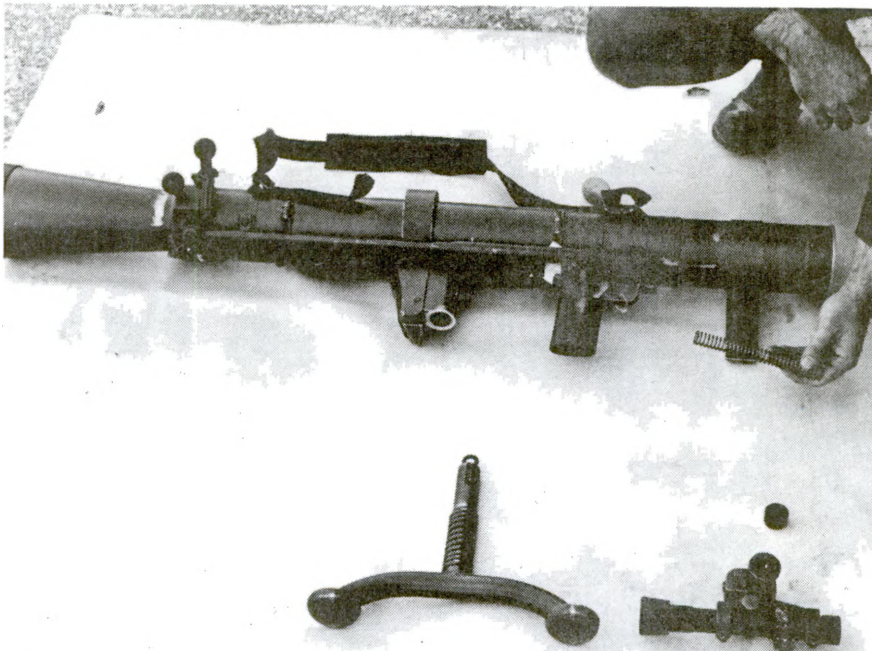
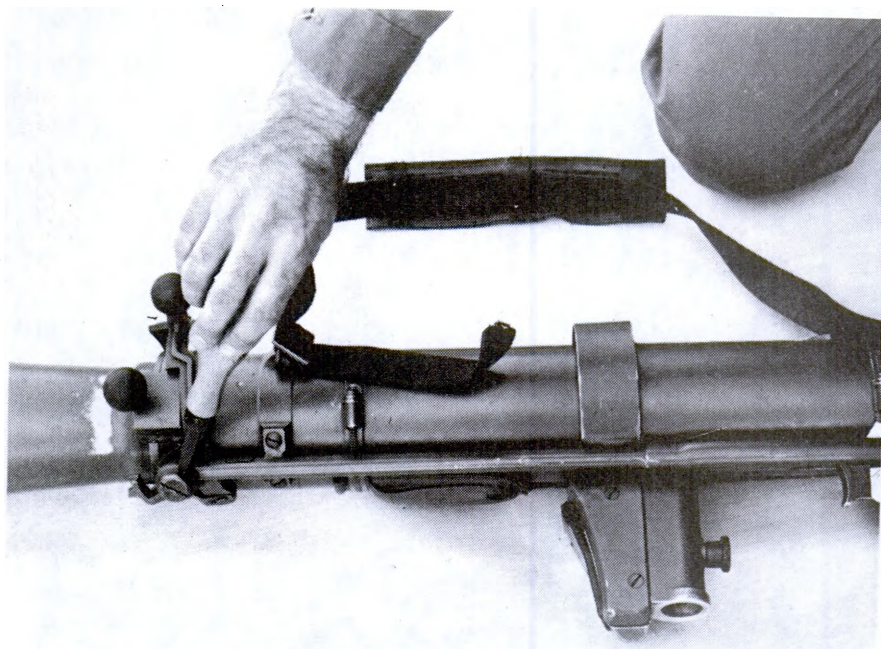

Figure 2
Figure 3
(2) Withdraw the spring from the firing mechanism housing (fig. 2).
- (3) Push the cocking handle as far forward as possible.
- (4) Unscrew the rear cap and withdraw firing pin (figs. 3, 4, and 5).